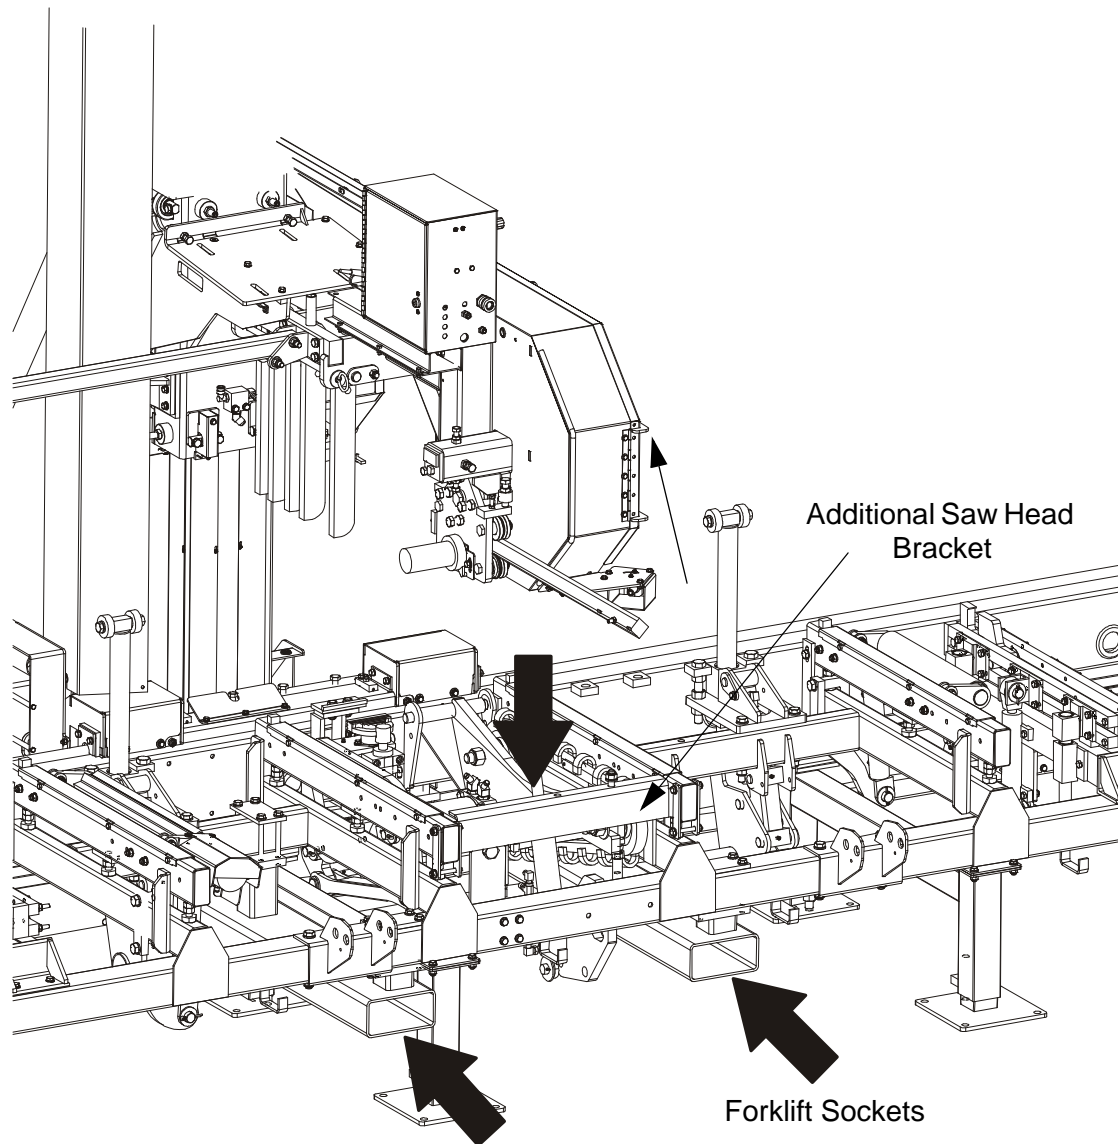

FIG. 3-1
**See Figure 3-1.** The machine can be lifted using the forklift only. Forklift must be rated for at least 6000kg. Mount the additional saw head bracket between bed rails. Next move the saw head to the transport position. Lower the saw head so it rest on the additional bracket. Machine is equipped with forklift pockets. Insert the forks into the pockets shown